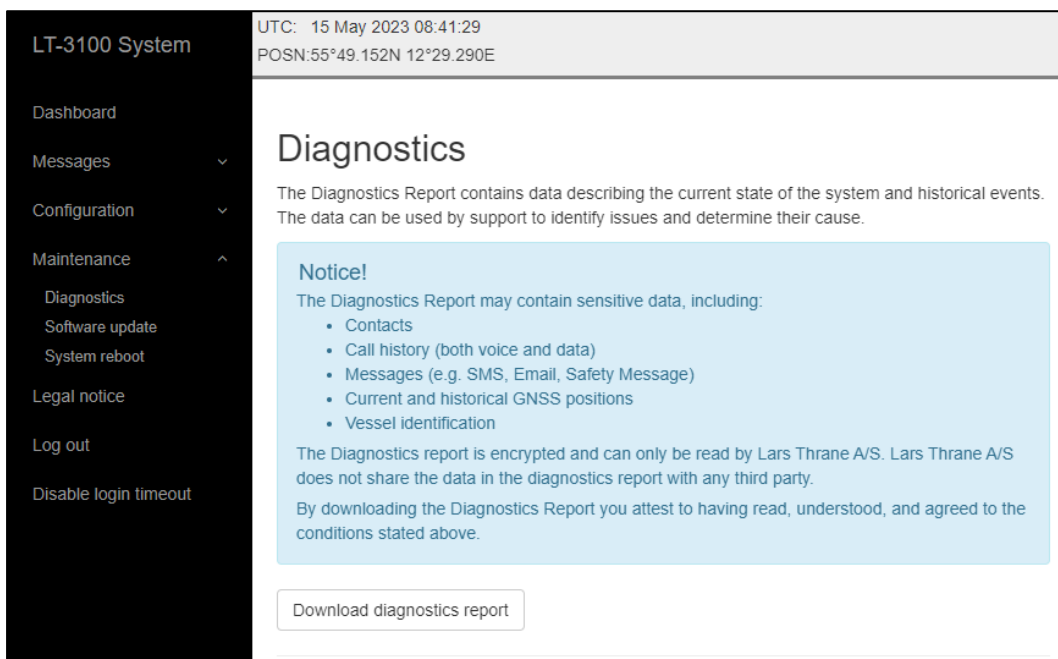

Figure 170: Web server (download diagnostics report)
**NOTE:** The diagnostic report is encrypted and can only be read by Lars Thrane A/S. Lars Thrane A/S does not share the data in the diagnostics report with any third party. By downloading and sending the diagnostic report to Lars Thrane A/S you attest to having read, understood, and agreed to the conditions stated under the *Notice!* (highlighted in Figure 170 above)